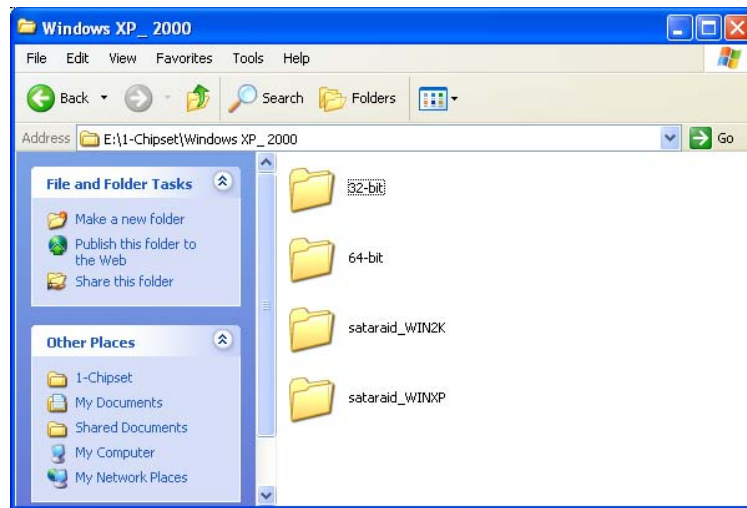

Figure 8-4: Operating System Type
Step 4: The screen in **Figure 8-4** appears if Windows XP is selected.